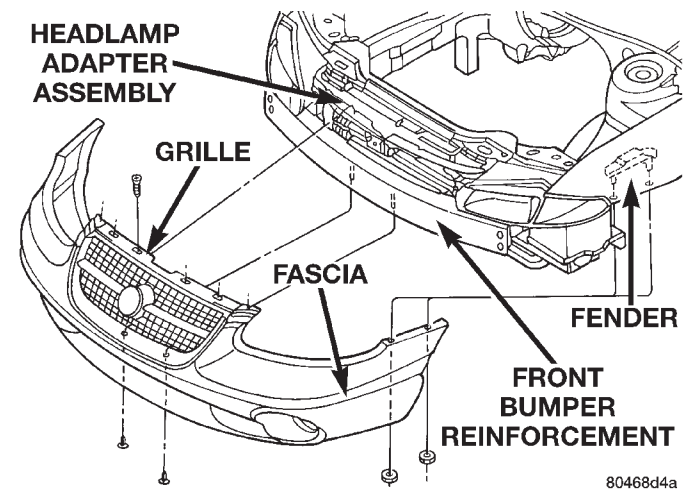

Fig. 1 Front Bumper Fascia
- (1) Release hood latch and open hood.
- (2) Remove screws holding top of grille to headlamp adapter assembly (Fig. 1).
- (3) Hoist and support vehicle on safety stands. Refer to Group 0, Lubrication and Maintenance, for proper hoisting and jacking procedures.
- (4) Remove push-in fasteners holding fascia to underside of bumper reinforcement.
- (5) Remove inner wheelhouse as necessary to access nuts holding fascia wings to fender.
- (6) Remove nuts holding fascia wings to fender.
- (7) Slide fascia forward and separate fascia from vehicle.
- (8) Disengage fog lamp wire connectors from back of fog lamps, if so equipped.